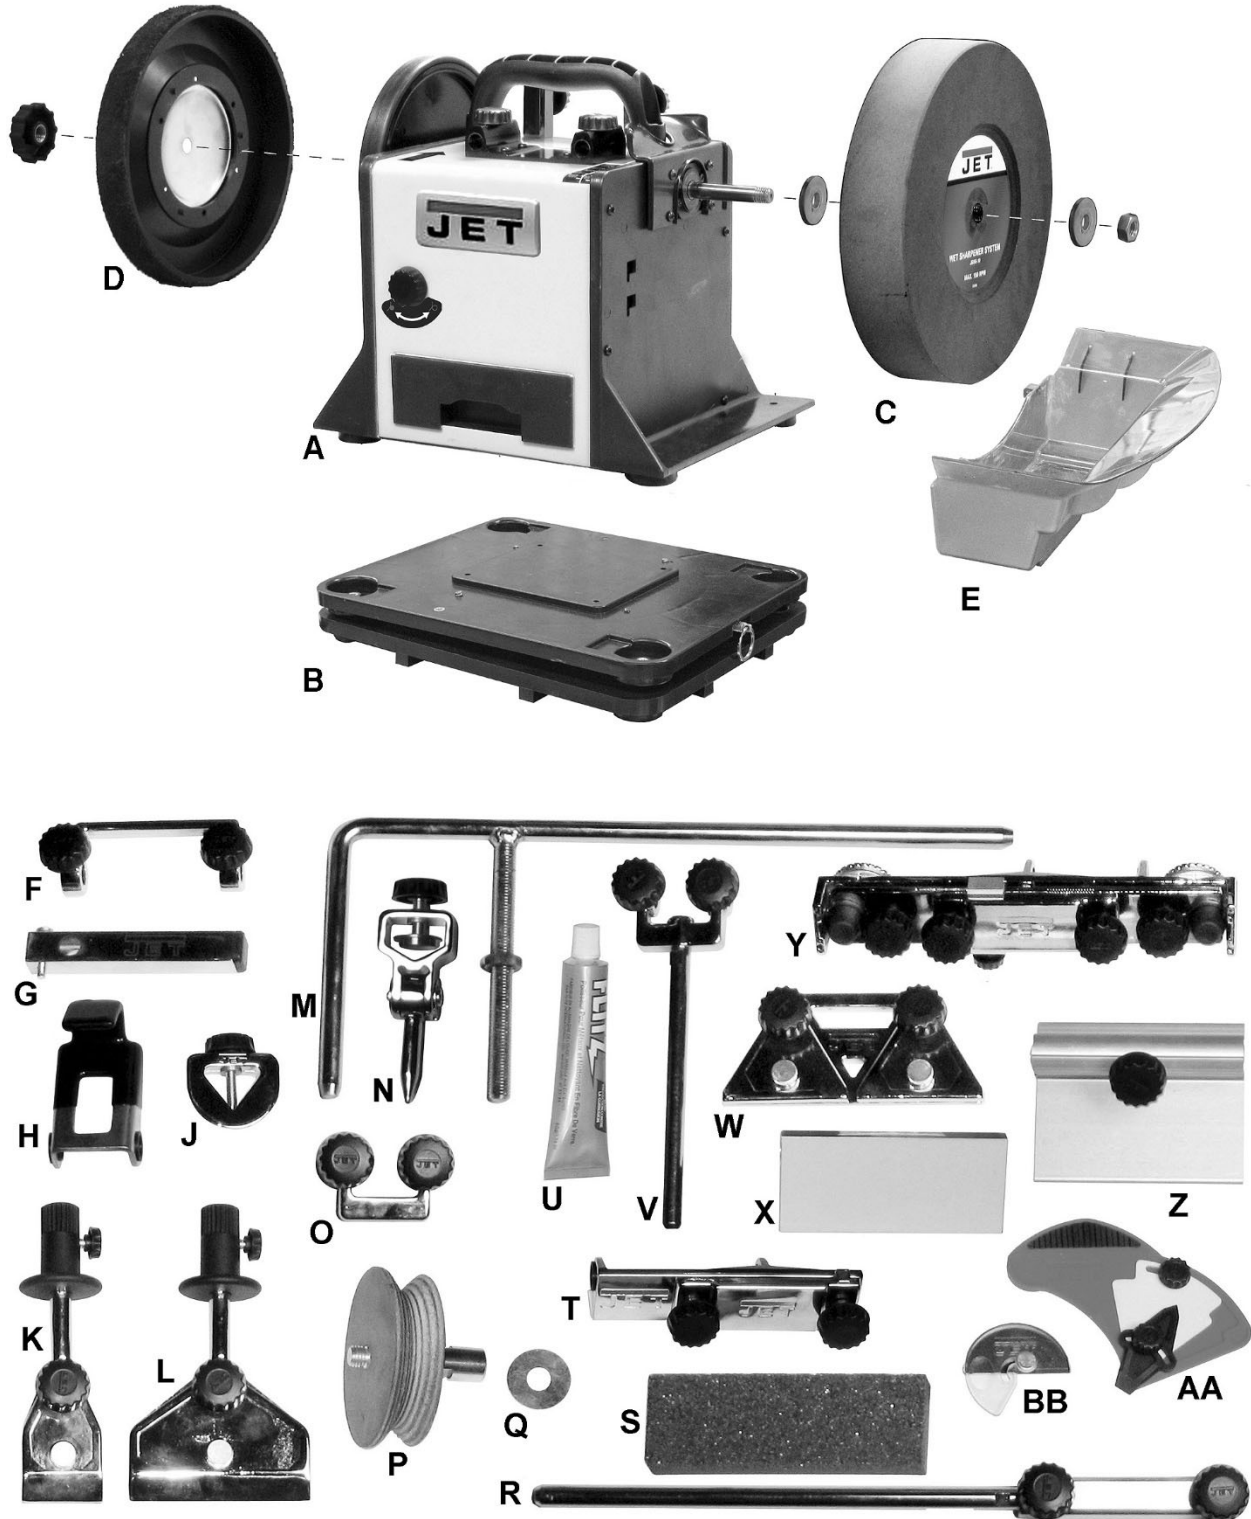

Figure 5-1
Install stone wheel (C) on shaft. See Figure 5-1. Place a washer on each side of wheel, and tighten nut.
Install the accessory support arm (M, Figure 5-1) to the vertical or the horizontal sleeves, depending upon the specific sharpening to be done. Always tighten knobs to secure.
The machine has an integrated drawer (E, Figure 5-1) where the standard accessories can be stored for quick access.
The existing angle measuring device (T, Figure 5-1) will stick to the magnets on the designated place at the side of the machine.
The angle measuring device (S, Figure 5-1) has integrated magnets and will stick to any surface on the machine body.